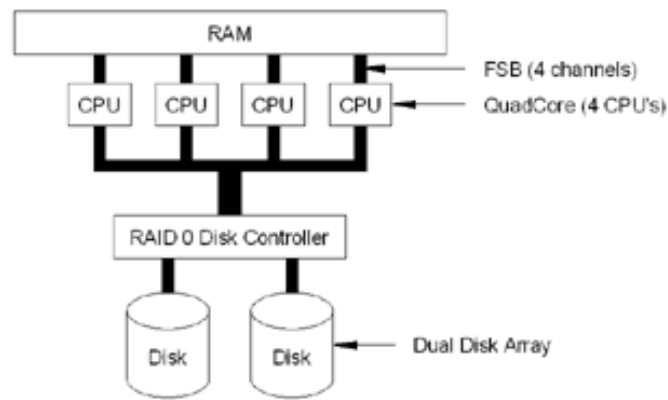

Figure 2 - The Quad-Core architecture has more data pipes/components with wider bandwidths to distribute processing jobs where they can be processed fastest.
In our second case (see Fig. 2), we have Quad-Core processor architecture. In this case, the processing load is spread over four (4) core CPUs, all of which have direct access to the machine's RAM with far bigger "pipes" than older, single CPU machines. In fact, FSB speeds for Quad-Core architectures are typically almost double (approximately 1.3 GHz) that of their single CPU relatives, thus allowing a lot more data to move between processors and RAM at one time. And since processing jobs can now be shared among multiple CPUs, you can see how the same amount of computing could get done in a lot less time using a Quad-Core machine.